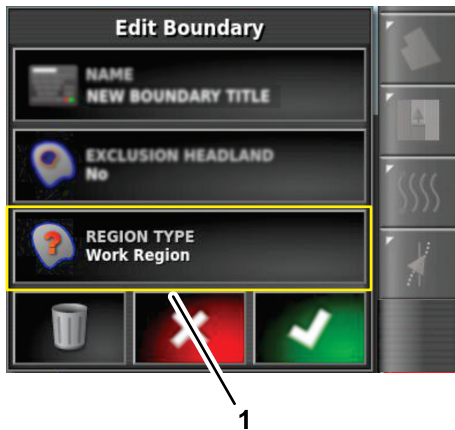

Figure 61
1. In the edit boundary dialog box, press the REGION TYPE icon (Figure 61).